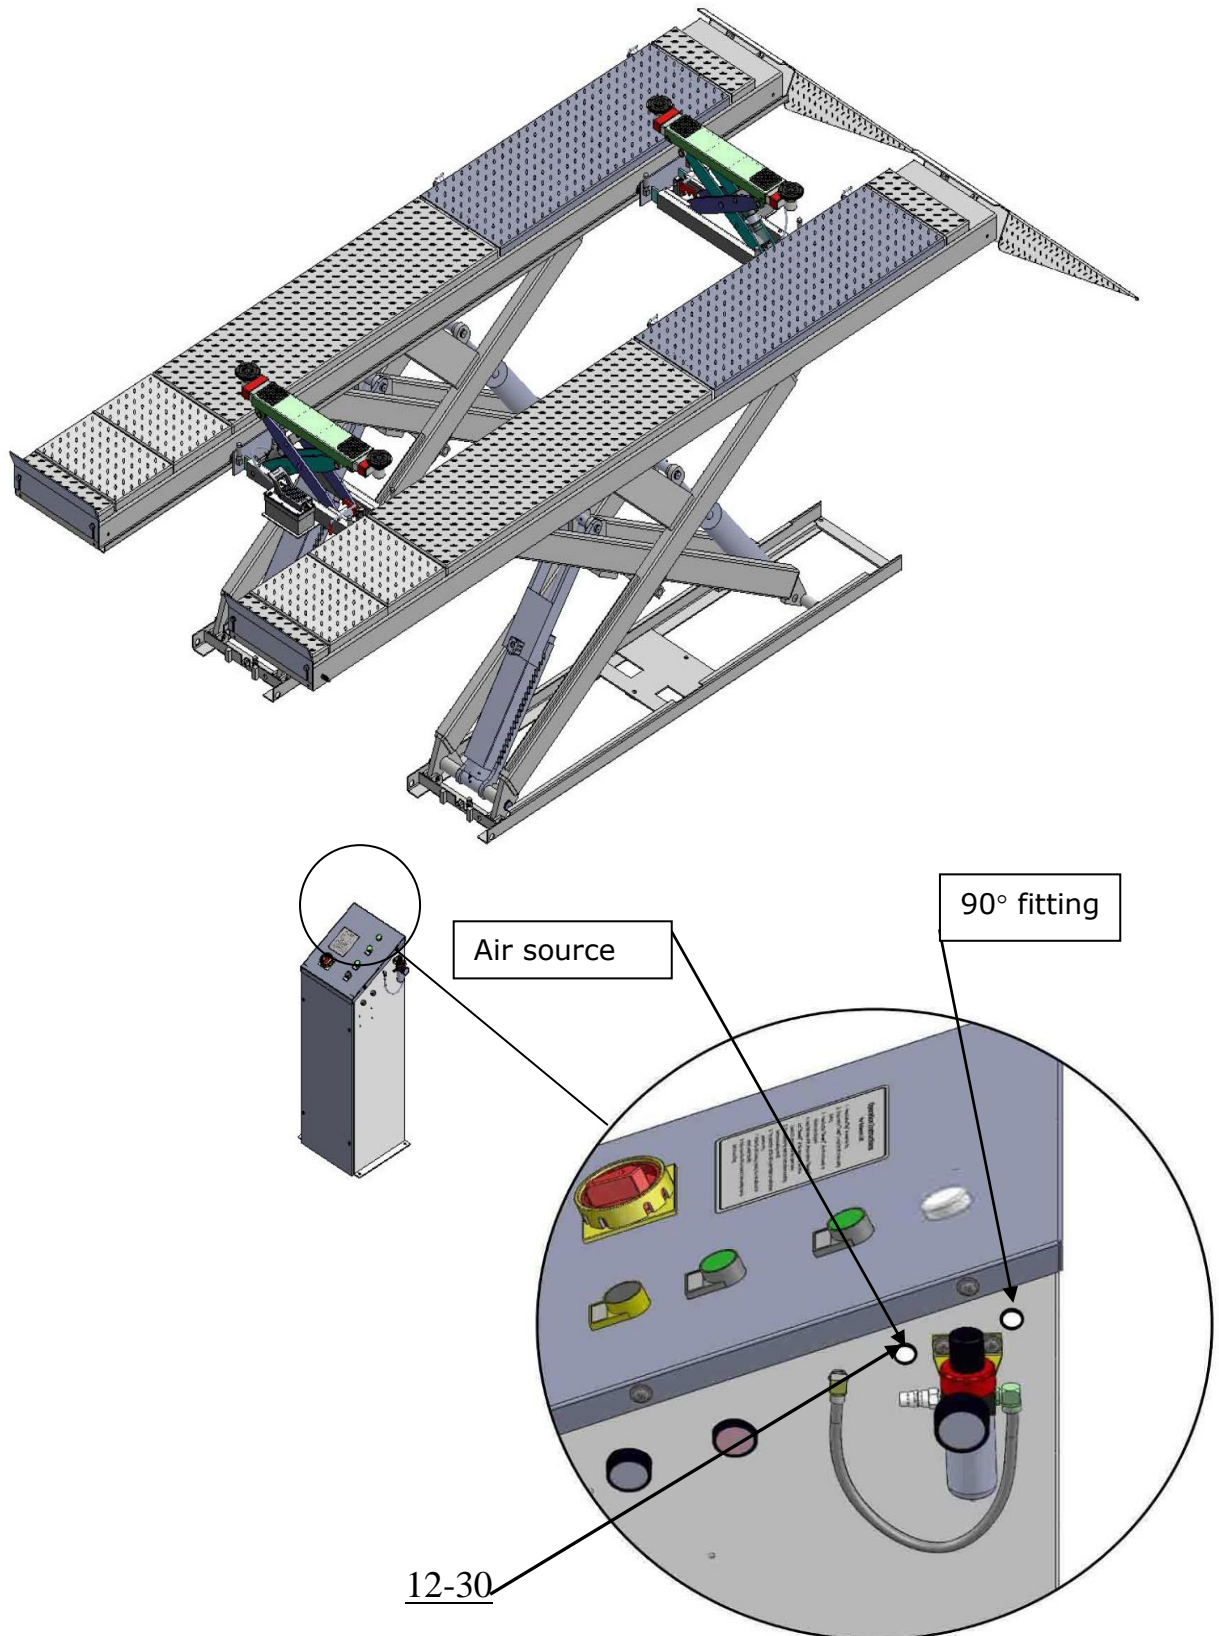

Fig. 38
H. Illustration of installing the TLX12/TLX12A optional air-line kits(Fig.38)